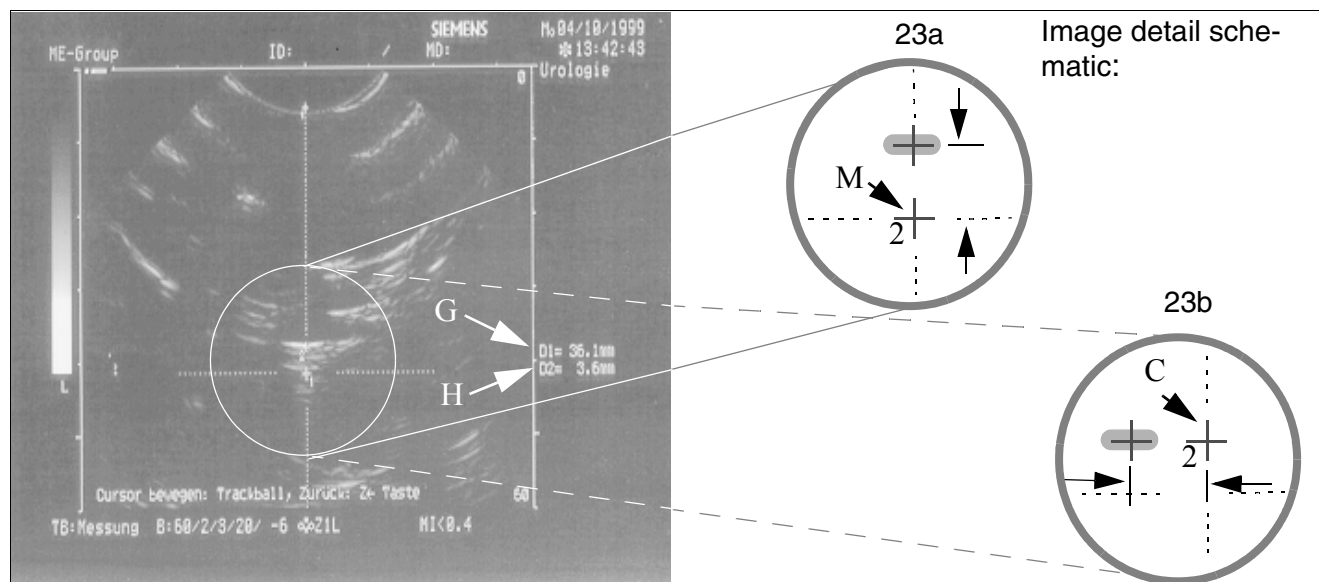

Fig. 23
## Checking the distance: Height (23a/Fig. 23)
- The value displayed for "D1" (G/Fig. 23) must be between 33 and 36 mm; if not, move the probe appropriately in the longitudinal axis.
- Move the cross "+2" using the track ball horizontally into the center of the white area (23a/Fig. 23) of the isocenter phantom
- The value displayed for "D2" (H/Fig. 23) must be between 1 and 5 mm. This is only valid for the default values, see instructions, SPL1-130.038.01...
**Checking the distance: Side (23b/Fig. 23)**
- If the center point of the white area (23b/Fig. 23) is not in the center (permitted difference:  $\pm 0.5$  mm from the center):
If the display of the ball (23b/Fig. 23) appears to the left of the isocenter, the correction value must have a negative sign in front (to the right is a positive sign in front).
- Enter half the value of D2 (H/Fig. 23).
**Example:(H/Fig. 23):** D2 = 1,2 mm  $\Rightarrow$  Enter: -06 .
- Check the difference; if white area (23b/Fig. 23) is not in the center of the isocenter, repeat the procedure.